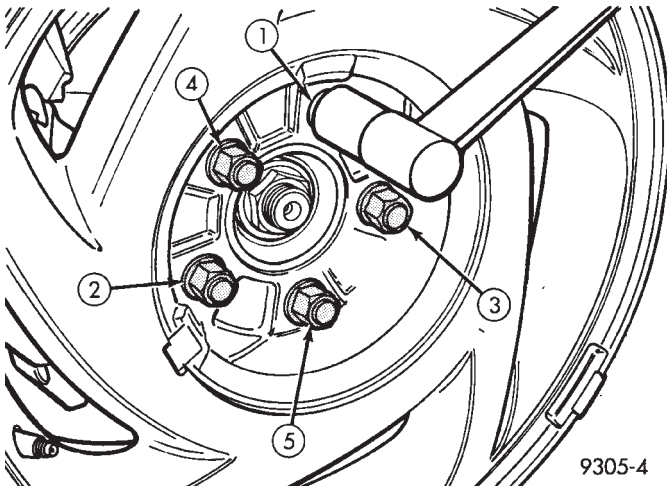

Fig. 11 Tightening Wheel Nuts
(8) Install the caliper guide pin bolts and tighten to 22 N•m (192 in. lbs.). **Extreme caution should be taken not to cross the threads of the caliper guide pin bolts.**
(9) Install the wheel and tire assembly.
(10) Tighten the wheel mounting stud nuts in proper sequence (Fig. 11) until all nuts are torqued to half specification. Then repeat the tightening sequence to the full specified torque of 129 N•m (95 ft. lbs.).